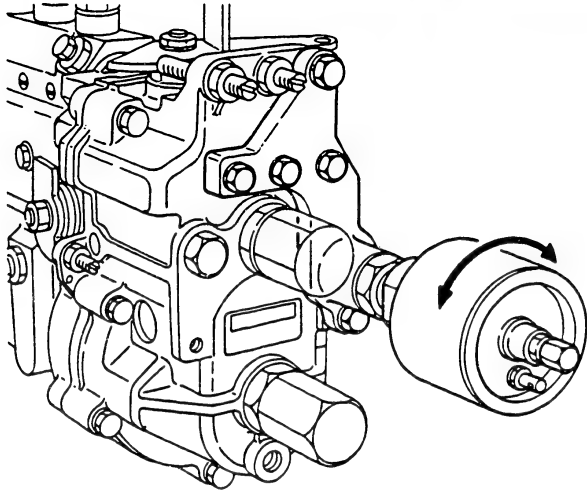

Fig. 173 Adjusting control rack position
- 1) In this condition, "supply negative pressure" P_1 mmHg to the aneroid compensator's atmospheric chamber. Rotate the aneroid compensator housing to adjust the control rack position to R_1 mm. Check that fuel injection quantity Q_1 cc/1000 st is obtained at this point. (Figs. 173 and 174)